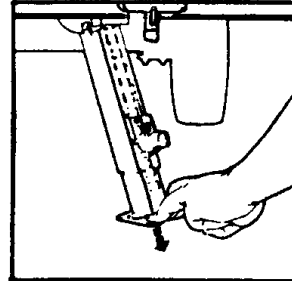

FIG. 6
16. Each stabilizer jack has an inner leg which must be extended to the ground. Because of certain terrain conditions, it may be advisable to locate flat blocks of wood or flat rocks under the base plates of the stabilizer jacks. (See Figure 6.)